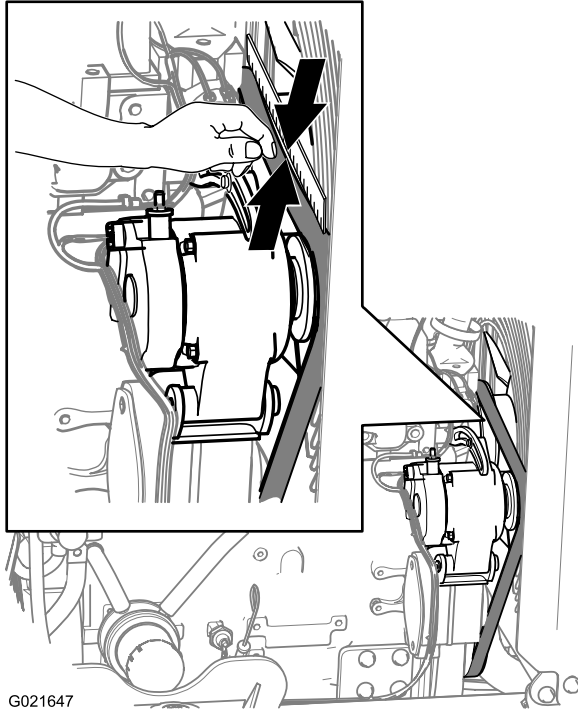

Figure 106
3. Inspect the belt for cuts, cracks, loose cords, grease, oil, twisting, or signs of abnormal wear (Figure 106).
3. Align a straight edge over the drive belt and across the pulleys as shown in Figure 106.
4. Press the belt down at the midway point between the fan pulley and the alternator pulley as shown in Figure 106.